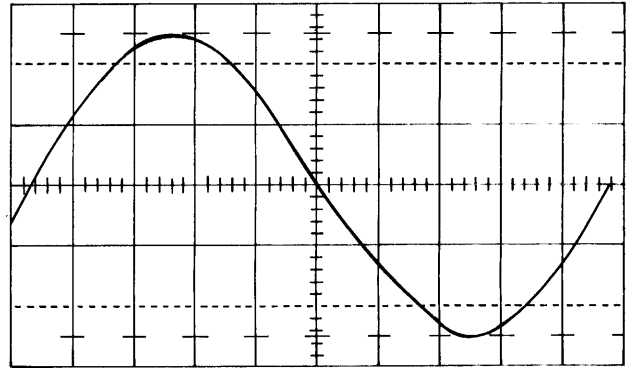

Figure 5-33. Oscillator Check
- c. Check 100 kHz oscillator (see Figure 5-33).